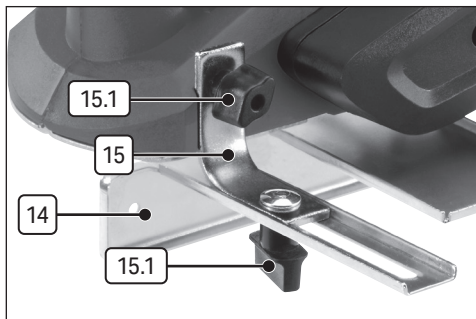

Fig. 5
7.4 Planing with the Guide Bar (Fig.5)